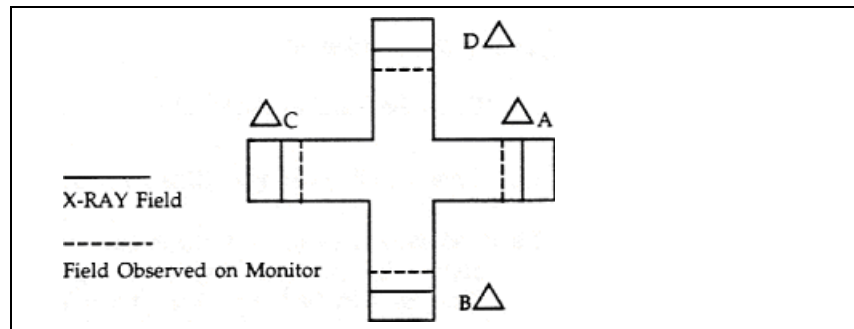

Fig. 15 X-Ray field observed on monitor
- Measure the deviations of A1, B1, C and D (see Fig. 15).